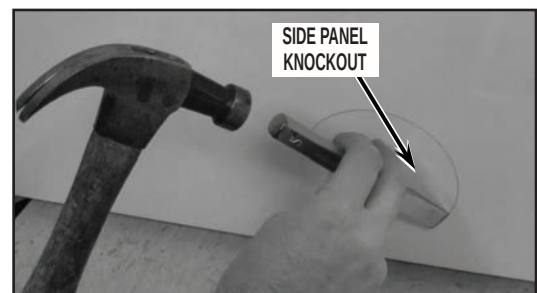

FIGURE 24
2. Remove the most REAR MOST right side knockout by using either a 1/8" drill bit and drill or a cold chisel and hammer. Remove the six (6) knockout retaining tabs around the edge. See *Figure 24*.